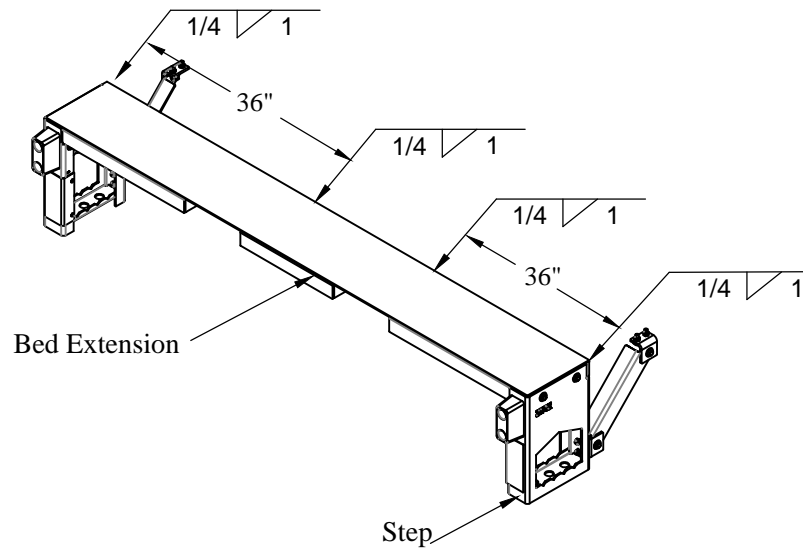

Figure 13: Bed Extension - Tacking Locations.
4. **Tack Weld** bed extension into position with four one inch welds (Figure 13).